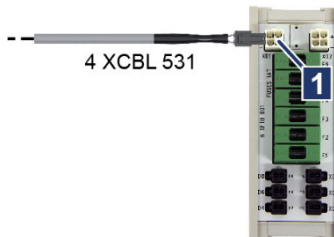

Fig. 6-12: Power supply connected to *XFTB*
2. Plug the power supply cable 4 XCBL 531 into terminal *XD1* or *XD2* on the fuse block *XFTB* (→ Fig. 6-12/1).